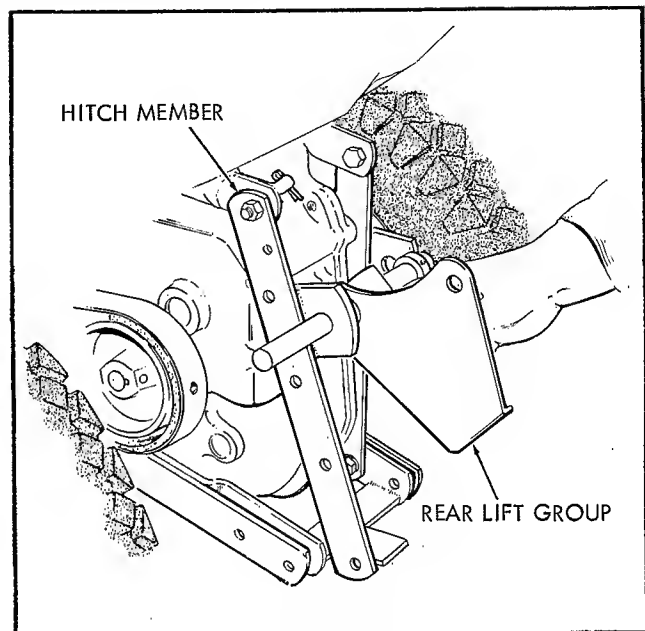

Fig. 2
2. Swing hitch member outward and install lift assembly as shown. Return hitch member to original position and replace hex cap screws. See Figure 2.